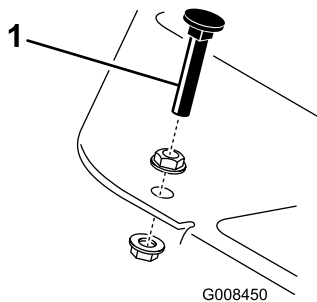

Figure 44
Press down on the traction pedal. If the pedal contacts the stop (Figure 44) before tension is felt on the cable, an adjustment is required:
1. Loosen flangehead locknuts securing the pedal stop to the floor plate (Figure 44).